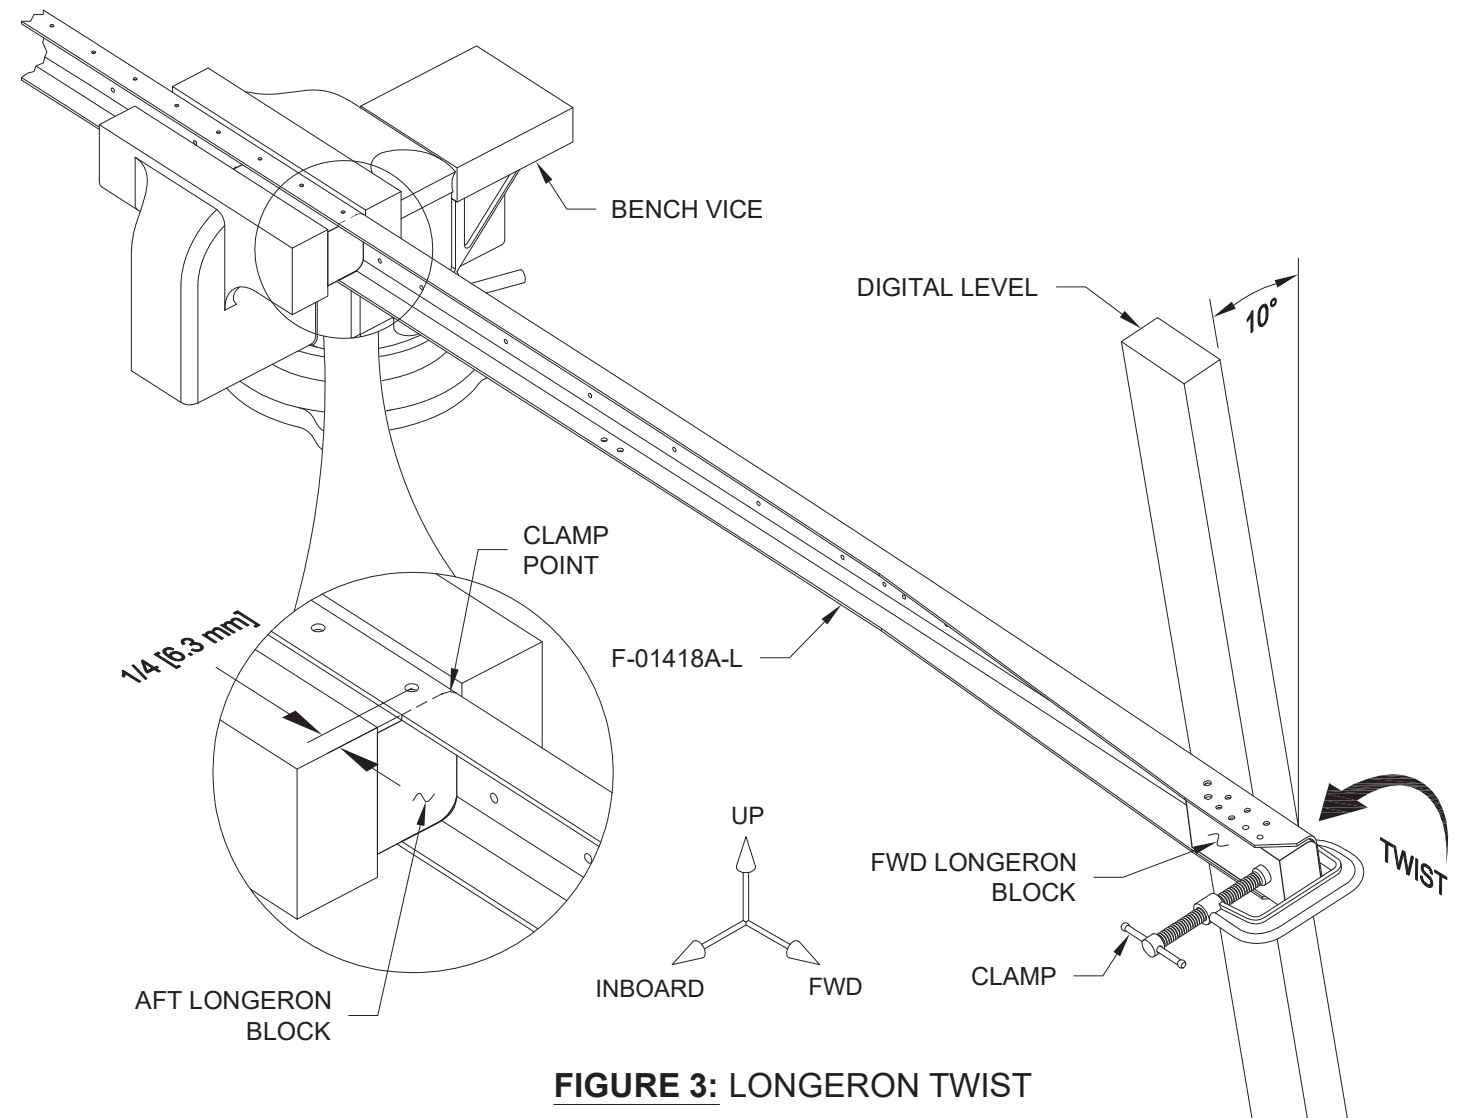

FIGURE 3: LONGERON TWIST
Step 4: Clamp the Longeron Blocks to the F-01418A-L Longeron as shown in Figure 3. Note the location of the forward edge of the Aft Longeron Block, this is the aft most point where twist in the longeron will occur.
Step 5: Use a digital level to obtain the initial angle for measuring the twist in the F-01418A-L Longeron. Twist the longeron to obtain a 10° degree permanent twist as shown in Figure 3.